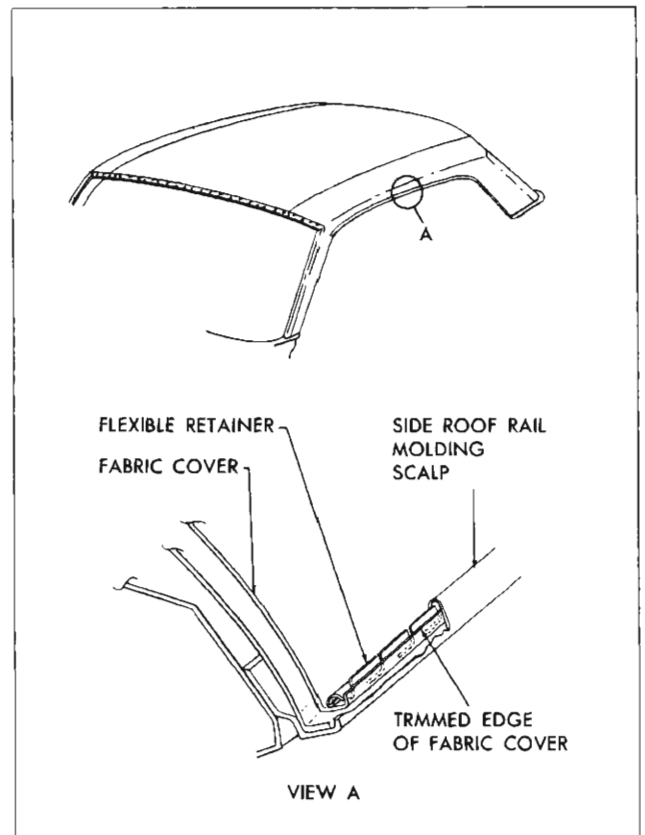

Fig. 119—Fabric Cover Retainer Installation
19. Using fabric cover trimming tool (J-21092), trim fabric cover just under lip of roof drip molding. View "A", Fig. 119).
21. Install flexible retainer starting at radius area above rear door or quarter window. Working toward rear of body, carefully insert retainer into drip molding so that fingers are under drip molding flange (View "A", fig. 119). Use fiber or wood block with slight concave end to push retainer downward. **Do not damage retainer.**